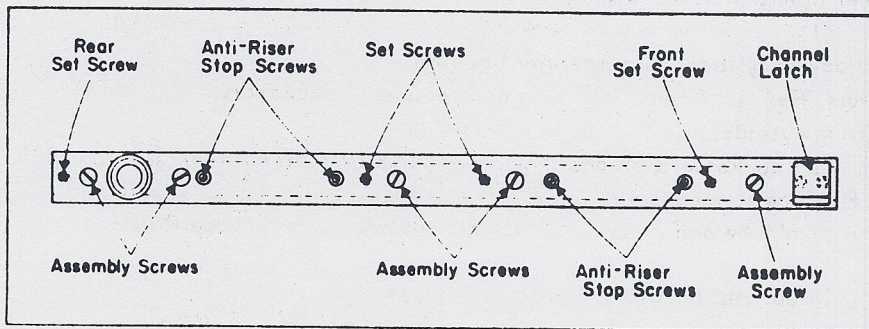

FIGURE 11
- B. Remove two $\frac{1}{4}$ - 20 hex. head screws from Active Door hanger assembly. Fig. 11.
- H. Turn the anti-riser screws **counterclockwise** as far as they will go. See Fig. 11.
- D. Turn The anti-riser stop screws **counterclockwise** as far as they will go. See Fig. 11.